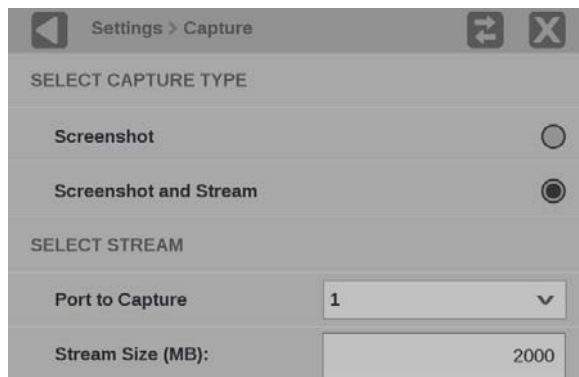

Figure 81: Selecting Screenshot and Stream
4. Select **Screenshot and Stream** under SELECT CAPTURE TYPE. (See Figure 81.)